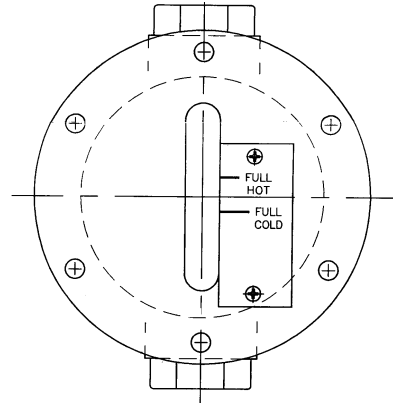

Figure 22 Sight Glass Assembly
4. Remove the plug from the filling port of the pump and pour the fluid in up to the FULL COLD level on the sight glass as shown in Figure 22. The fluid can also be poured in from the pump inlet or foreline.